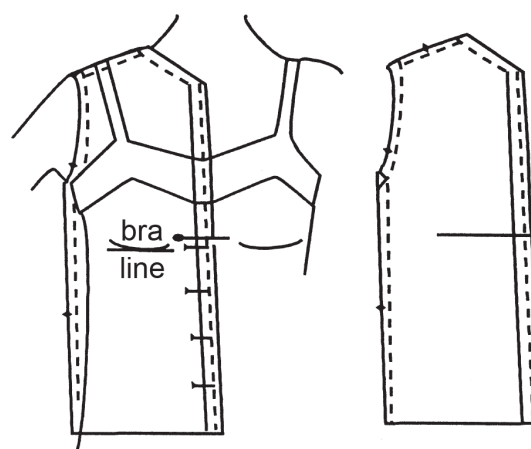

Figure 5. Mark the “bra line” on your pattern.
- Mark the “bra line” on your pattern. A button and buttonhole are needed at the bra line to prevent “gapisis,” or gaping at the bust (Figure 5).